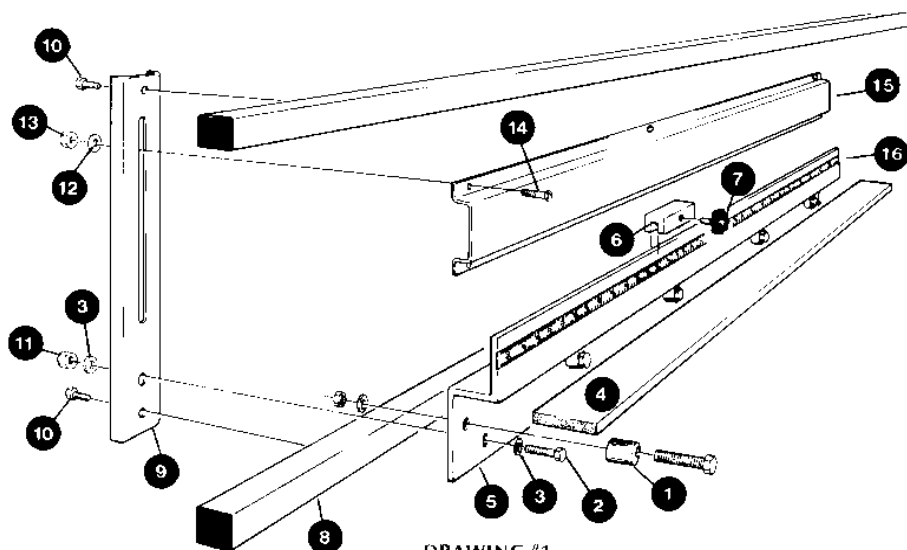

Figure 76: Pre-assembly of Midway Fence
The Midway Fence Accessory is a removable horizontal work piece support that mounts halfway up the tool frame. It allows narrow work pieces to be worked at waist height. The fence consists of left and right fixed brackets that mount to the frame, and removable supports for each side. The accessory contains the components shown in figure 76.
1. Lay out the parts, shown in figure 76, on a horizontal surface (table or bench) for pre-assembly. Note that one end of each fence extrusion is cut at a 45° angle. The units should be pre-assembled so that these beveled ends will fit against the center of the tool frame at final assembly.
- Tip the top of the rear support brackets (#9 in Fig. 76) under the **upper** horizontal frame member (#8), raise the fence, and push the lower ends of the rear support brackets down behind the **lower** horizontal frame member. The nuts may have to be loosened slightly to perform this step.
3. Slightly loosen the bolts that secure the aluminum extrusion (#5, Fig. 76) to the rear support brackets (#9), to allow the extrusion to be moved up or down by tapping it with a mallet.